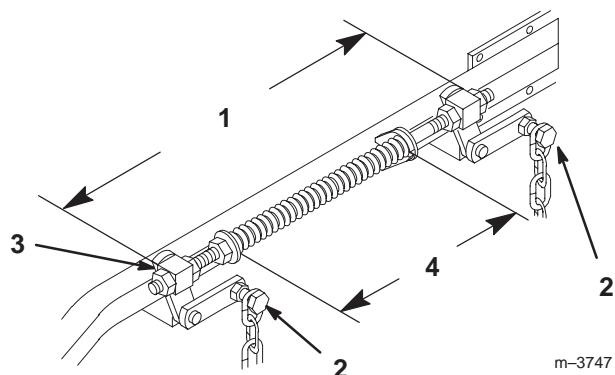

Figure 65
6. Loosen the four top chain bolts in slots. Check the length of the rod/swivel assemblies. Distance from outside of rear swivel to outside of front swivel should be 19-17/32 inch (496 mm) (Fig. 65). Make sure that all four swivels move freely in holes.
2. Springs are compressed so the distance between the two large washers should be 11 inch (279 mm) (Fig. 65).
3. Adjust by turning nut in front of each spring (Fig. 65). Clockwise will shorten spring; counter-clockwise will lengthen spring.